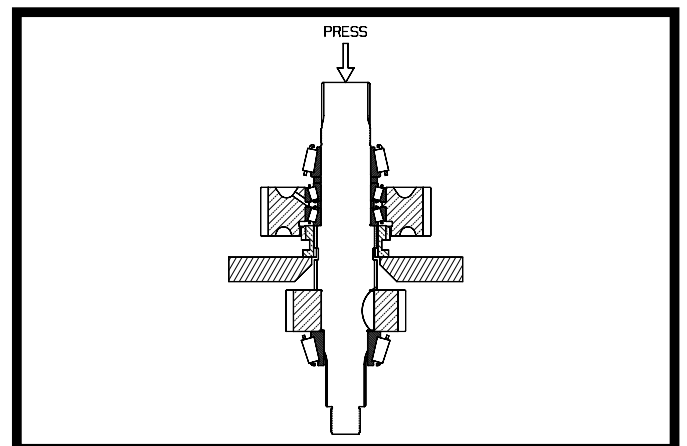

Figure 4.13
3. Place the shaft assembly in a press so that the clutch collar is supported and the press arbor bears against the end of the shaft. **Do not support the assembly by either one of the gears.** See Figure 4.13. Remove the (3) bearing cone assemblies, the gear assembly, the two spacer rings, and the clutch collar.